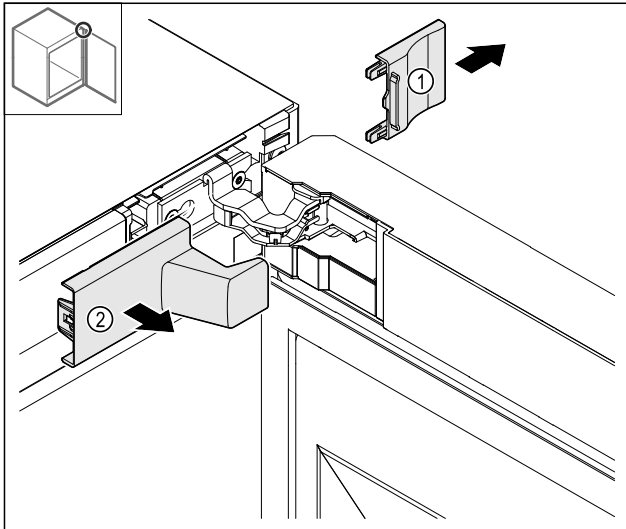

Fig. 8
- Lift off the cover Fig. 8 (1) and then remove Fig. 8 (2).